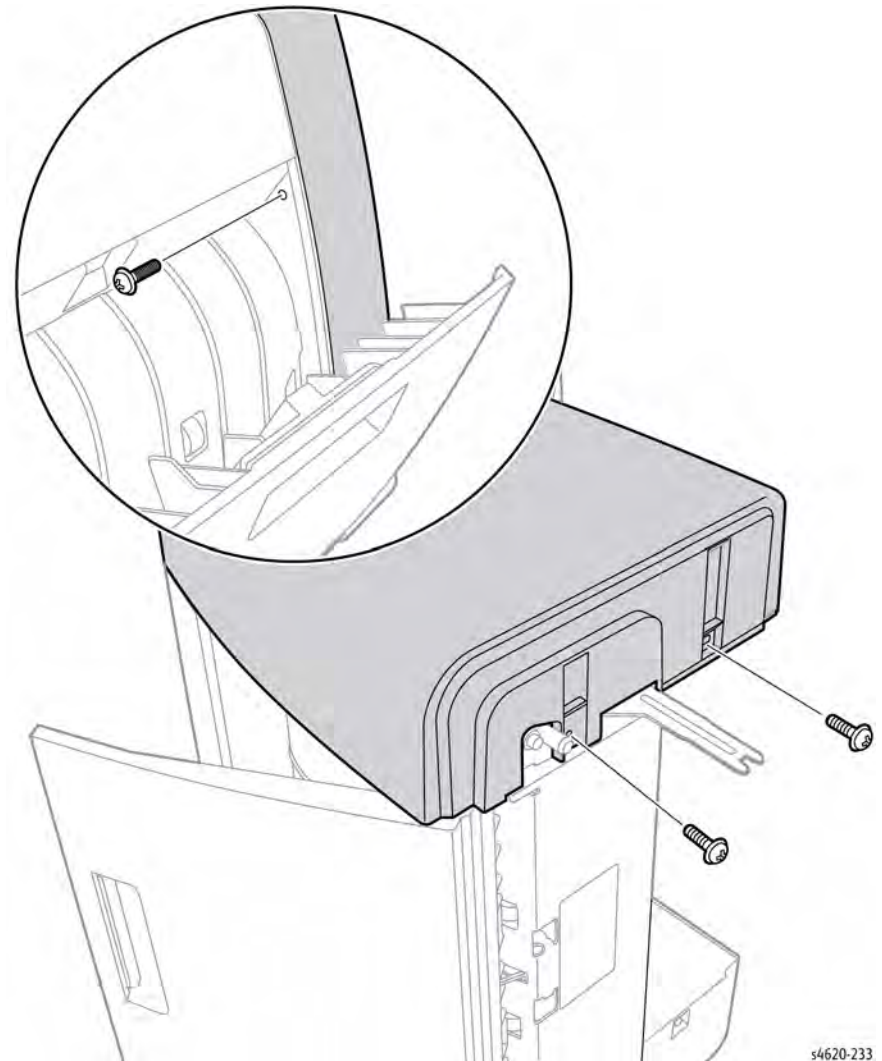

Figure 1 Remove the left cover
2. Remove 3 screws (1 metal and 2 plastic) that secure the cover to the Finisher, Figure 1.